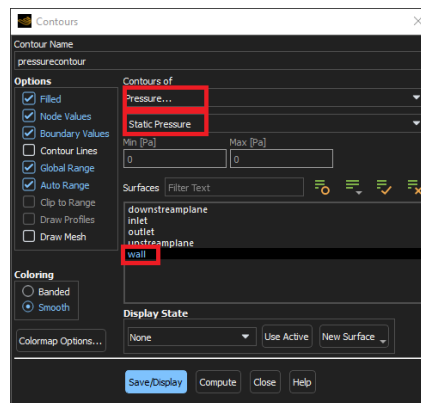

Figure 59: Fluent Pressure contour options.
1. We may first visualize the pressure field: in the *Outline View*, *Results* group, select *Graphics*, *Contours* and *New...*. In the Contours window that will open up, rename it *pressurecontour*, then select *Pressure*, *Static pressure* as variable, and *wall* as the corresponding surface, as shown in figure 59.